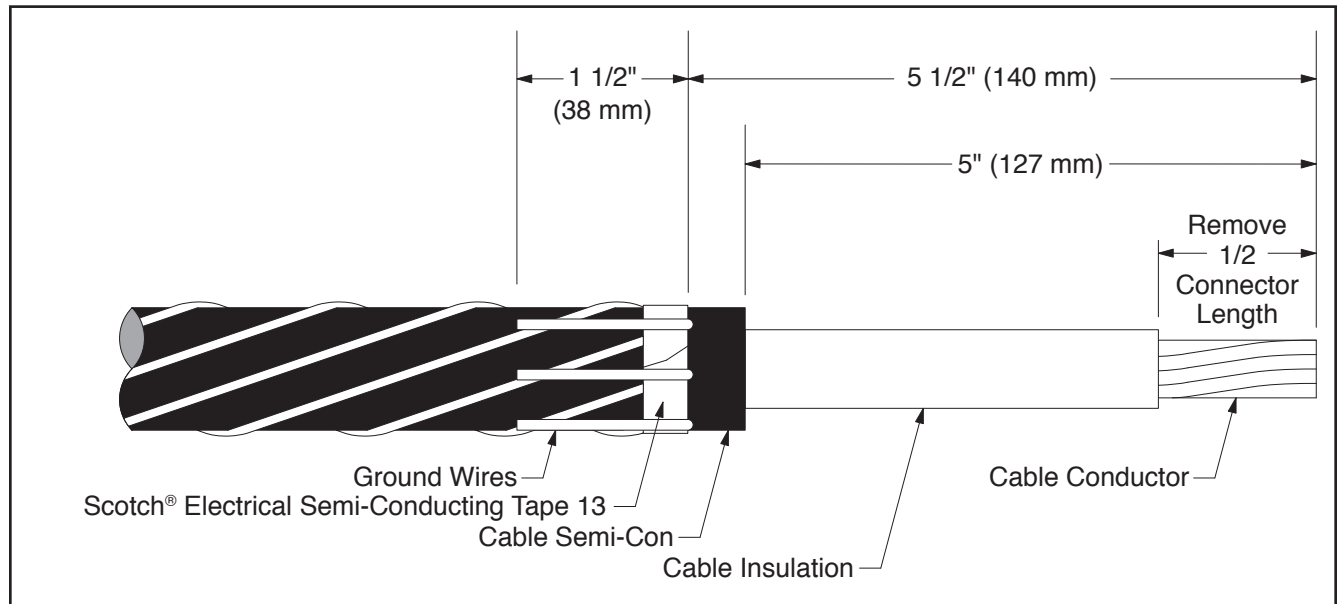

Figure 2
- b. Wrap 2 full wraps Scotch® Electrical Semi-Conducting Tape 13 over ground wires 5 1/2" (140 mm) from cable end (Figure 2).
- c. Cut off ground wires to a length of 1 1/2" (38 mm) and fold back onto cable (Figure 2). Secure the ends with copper tape, if needed.
- d. Remove cable semi-con as shown in (Figure 2).
- e. Remove cable insulation from cable ends for a distance of 1/2 connector length (Figure 2).